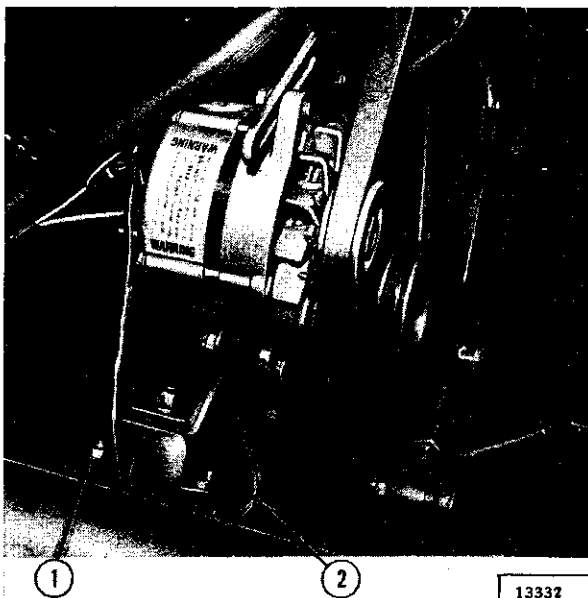
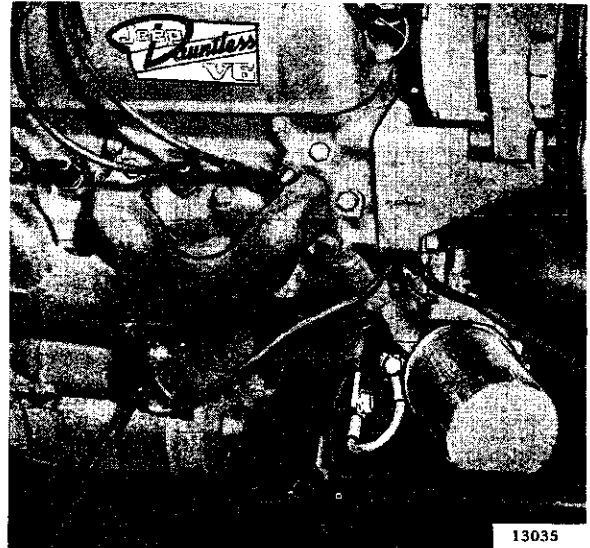

FIG. C-1—FRAME GROUND STRAP —
FIG. C-2—FRAME GROUND CABLE —
g. Make sure the engine to frame ground strap or cable connections are tight. If these connections are loose, corroded or dirty, hard starting or failure of the vehicle electrical system may result. Refer to Fig. C-1 for location of the Hurricane F4 engine to frame ground strap and its connections. Refer to Fig. C-2 for location of the Dauntless V-6 engine to frame ground cable.